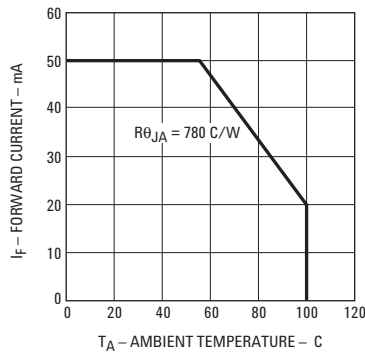

Figure 3. AllnGaP maximum forward current vs. ambient temperature.
1. Derate linearly as shown in Figure 3 for temperature above 50°C.